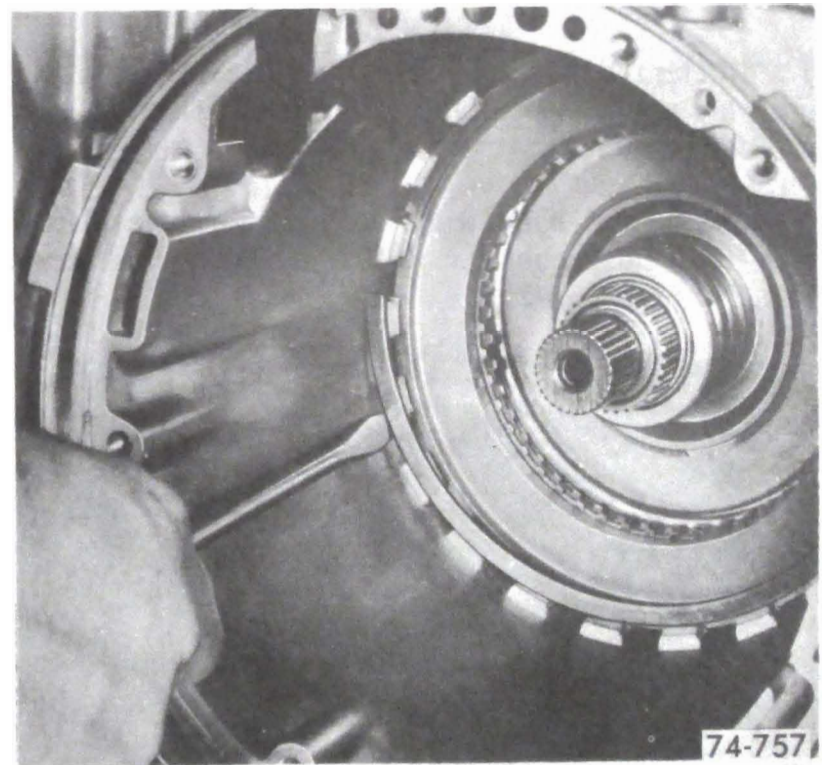

Figure 76-253
14. Install the intermediate clutch backing plate to case snap ring. Gap in snap ring should be opposite band anchor pin. See Figure 76-253.